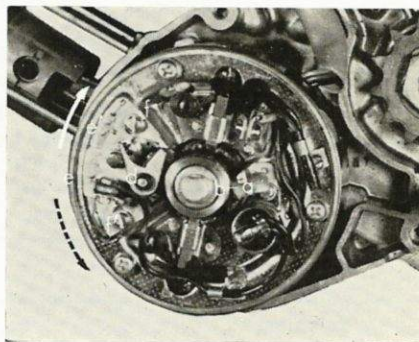

Fig. 28
- Put the screwdriver to "e" and adjust it so that the contact of the points begins to break just when the stator's notch (marked "a" in the Fig. 28) is in line with the notch of the cam (marked "b" in the Fig. 28)